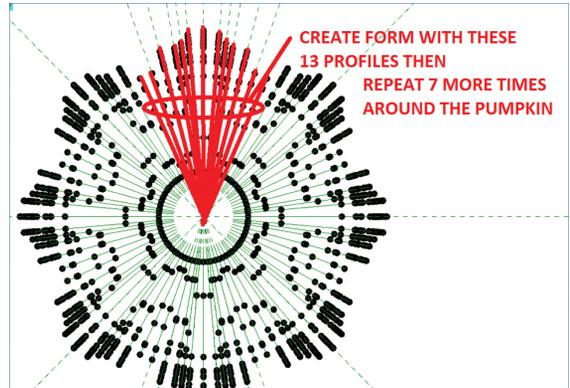

Figure 13: The plan view of profiles
- Select the 13 splines shown in Figure 13 and click “create form.” The final model should look similar to Figure 11.